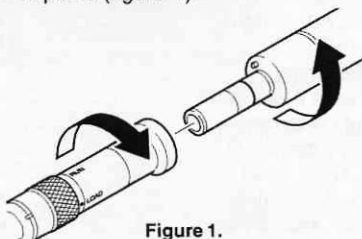

Figure 1.
1. Push and twist the attachment onto the handpiece until it snaps into place (figure 1).